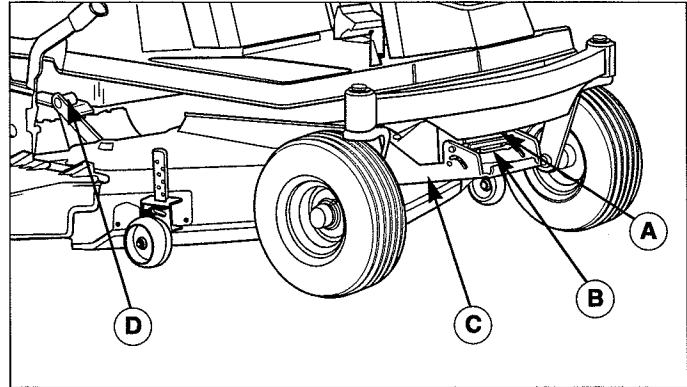
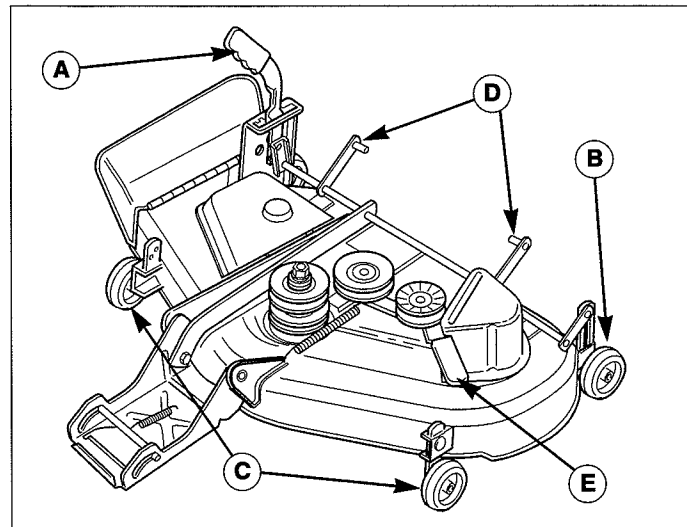

Figure 11. Mower Hitch Components
Figure 12. Mower Components (44" Deck Shown)
2. Place the mower height adjustment lever (A, Figure 12) in the lowest cutting position.
3. Release tension on the drive belt using the Idler Pulley Arm (E, Figure 12) and release the drive belt.
4. Disconnect the front hitch by pulling out on the release rod (A, Figure 11) and lifting the mower hitch (C, Figure 11) off the rider hitch bracket (B, Figure 11).
3. Slide the mower deck under the right side of the rider, and then back, making certain the mower supports (D, Figure 12) are properly located onto the rider support plates (see D, Figure 11).
5. Connect the mower hitch to the front rider hitch by pulling out on the release rod (See Figure 11).